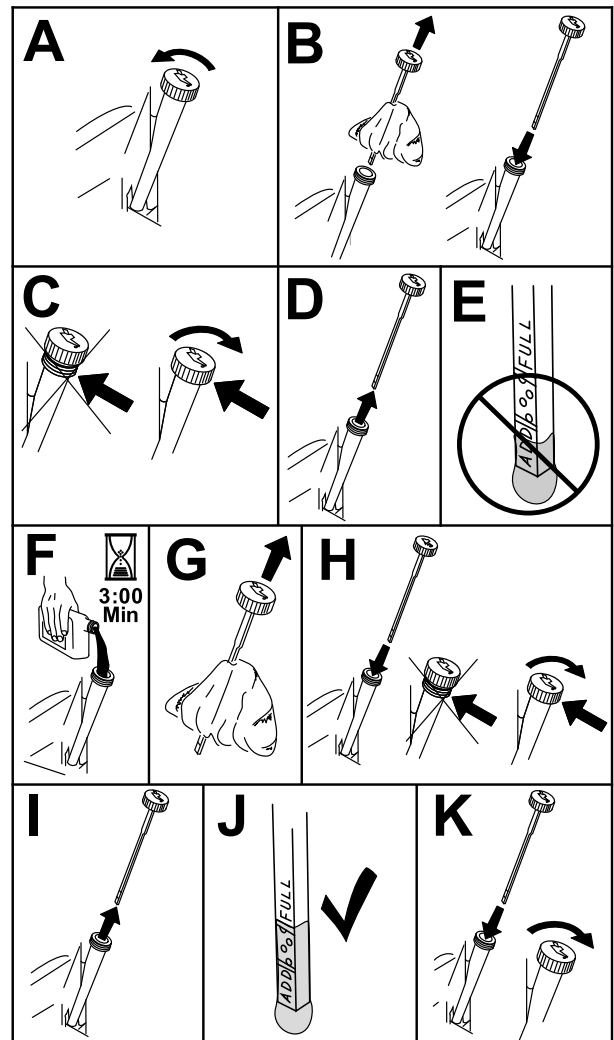

Figure 42
3. To keep dirt, grass clippings, etc., out of the engine, clean the area around the oil-fill cap and dipstick before removing it (**Figure 42**).